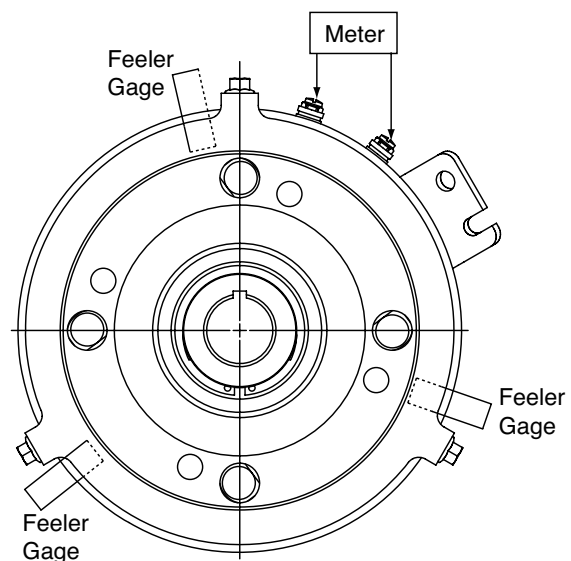

Figure 1
2. Loosen but do not remove the three brake mounting screws. Insert a 0.015" feeler gauge or equivalent thickness shim stock at each screw location being careful to locate the gauge between the armature and brake ring. (Figure 1 and 2)
4. Connect meter lead wires to the terminals of the clutch (Figure 1)